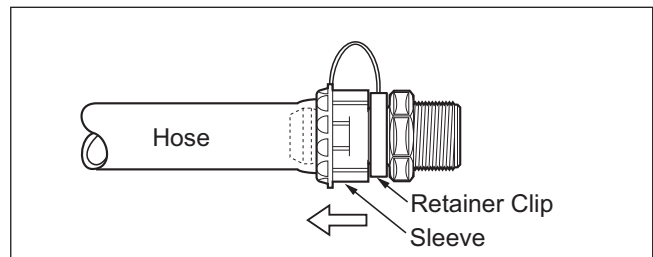

Figure 5. Install the Retainer Clip.
6. Holding the hose in place, pull and twist the sleeve on the quick connect over the hose as far as possible. Snap the clip into place. See Figure 5.